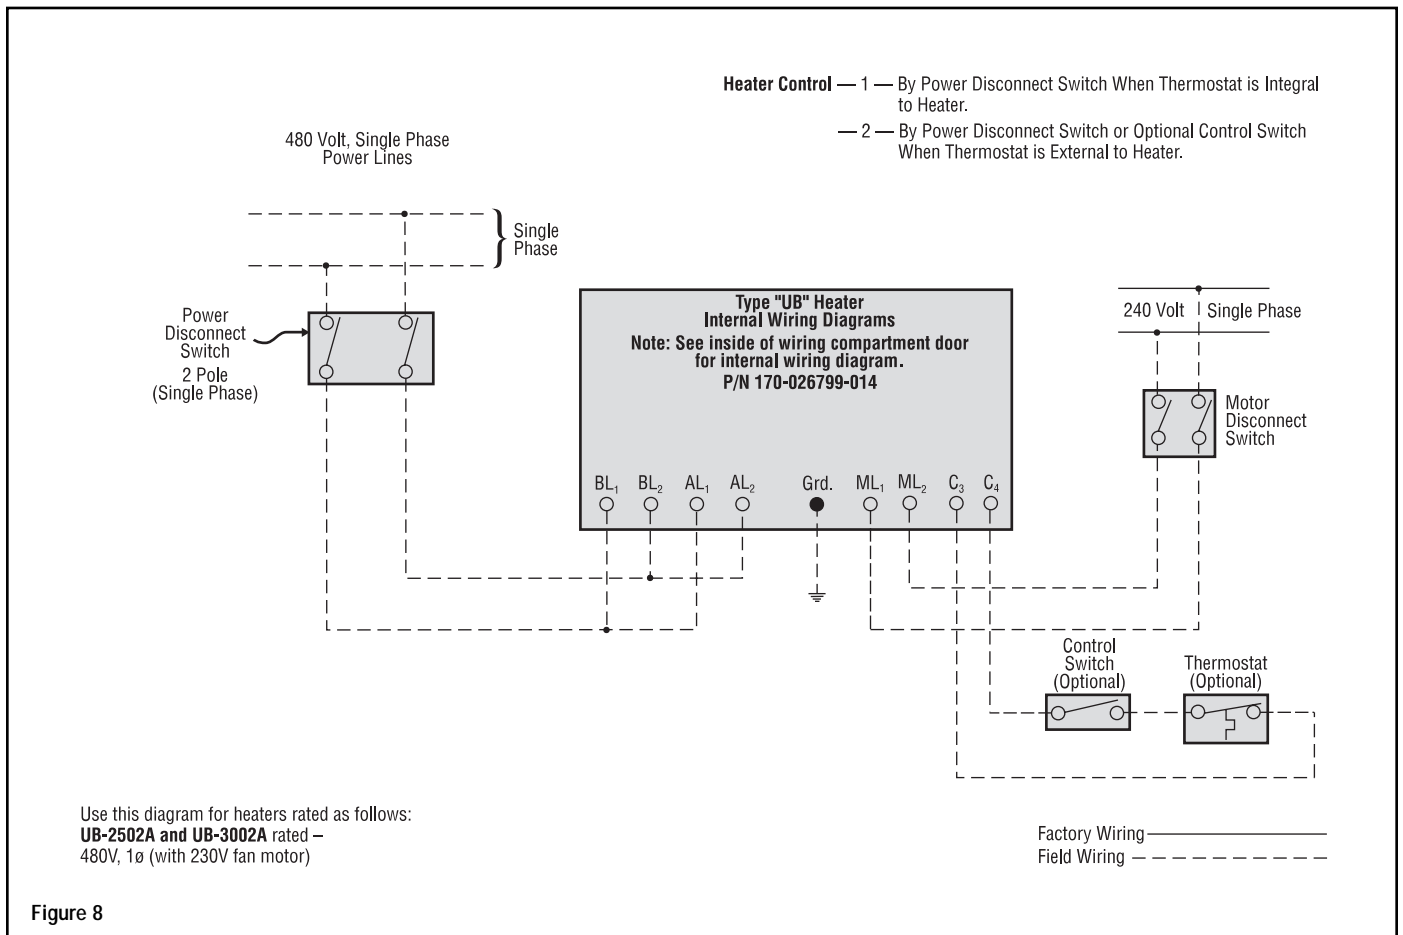

Figure 8
- 2. If an external transformer is used to step down the voltage for operating the fan motor, use appropriate wiring diagram (Figures 8 thru 11).